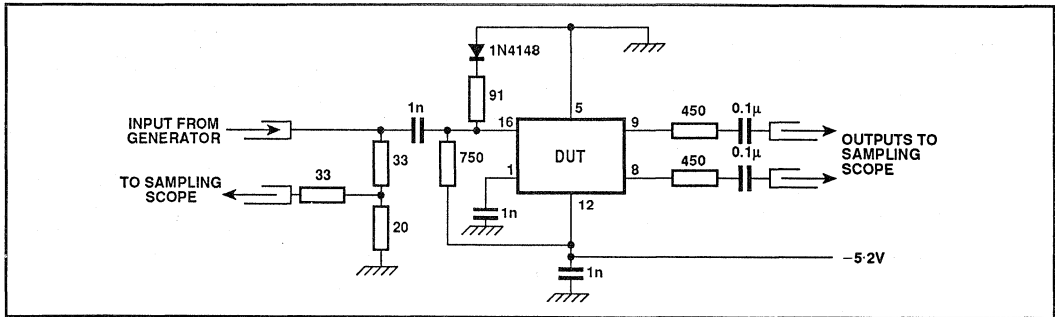

Fig. 6 Test circuit
2. The test configuration for dynamic testing is shown in Fig.6.
1. The clock and control inputs are ECLIII compatible. There is an internal pulldown resistor to V_{EE} of 4.3kΩ on each input and therefore any unused input can be left open circuit. If it is desirable to capacitively couple the signal source to the clock then an external bias is required as shown in Fig. 6. The external bias voltage should be -1.3V at 25°C.